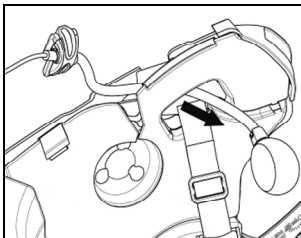
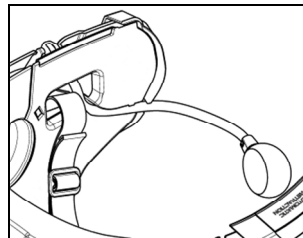

Fig. 7
Fig. 8
- Insert the microphone into the eyelet (Fig. 7) and position it in the special housing, then inserting the metal boom in the groove found in the chin guard coupling frame (Fig. 8).